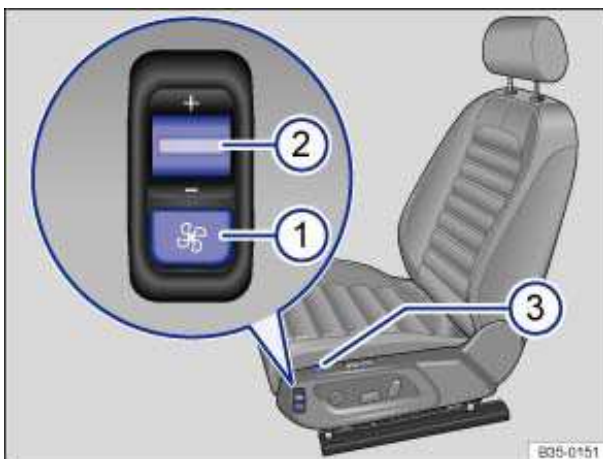

Fig. 44 On front seat: Switch for seat ventilation.
- Push the button ⇒ fig. 44 (1) to turn on seat ventilation for the front seats. The indicator light in the front seat (3) comes on.
- Push the button (1) again to turn seat ventilation off. The indicator light in the front seat (3) goes out.